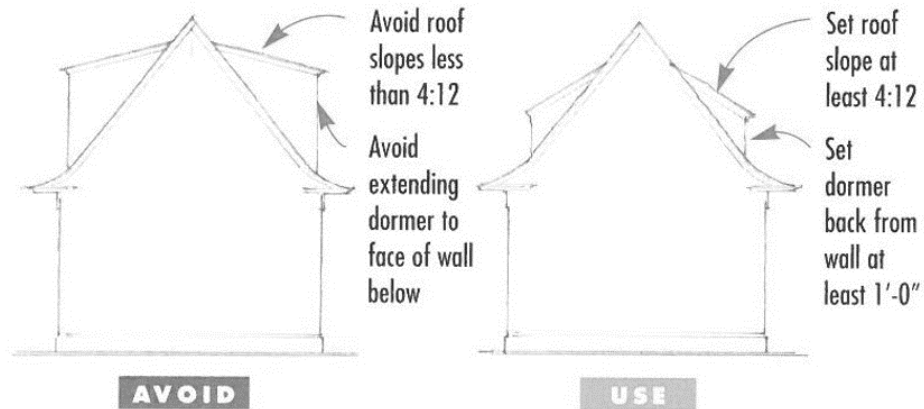

Figure 30: Dormer Standards. Source: Marianne Cusato, *Get Your House Right* (Canada: Sterling, 2007), 120, fig. 5.52.
5. Be at least one (1) foot from the side wall of the building (the wall parallel to the dormer window) if the roof does not have an eave. For roofs with an eave, the dormers do not have to setback at all from the side wall.
6. Be set back at least one (1) feet from the walls perpendicular to the dormer window (Figure 30).
7. Not project beyond the exterior wall of the building below (Figure 30).
8. Have a minimum roof slope of 4:12 (Figure 30).